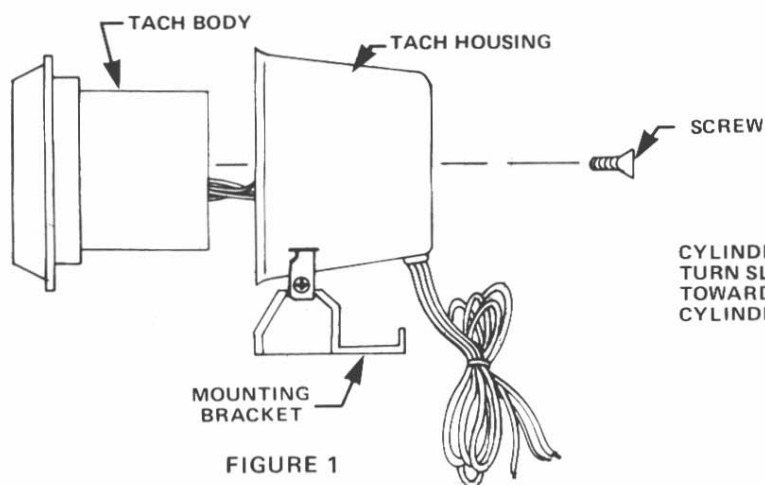
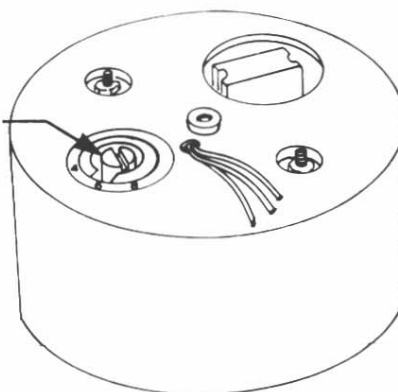

FIGURE 1
FIGURE 2
1. Before mounting or connecting Tachometer in the car it will be necessary to set Tachometer for either 4, 6, or 8 cylinder application. To set Tach remove philips screw in rear of housing. Remove Tachometer body from housing body making sure that mounting bracket is loose. (See figure 1.) Using a small straight blade screwdriver rotate slot until it points to your particular cylinder number. (See figure 2.)